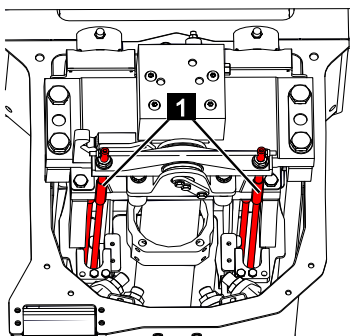

Fig. 259
11. Check the extender ropes (Fig.259/1) for damage.